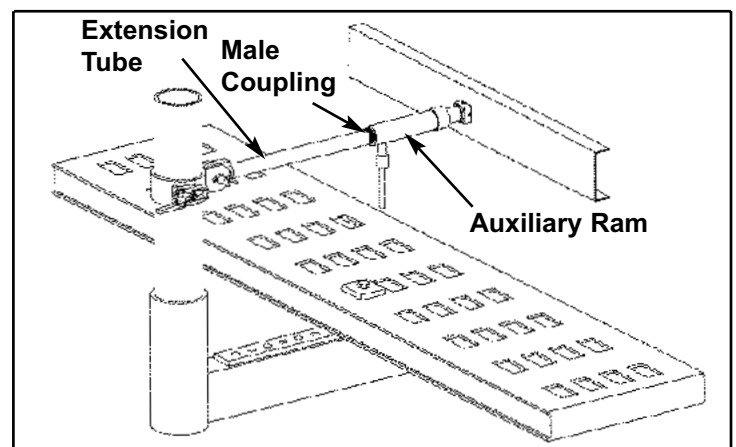

Figure 5
4. Install the auxiliary ram and its attachments. (See Figure 5.)